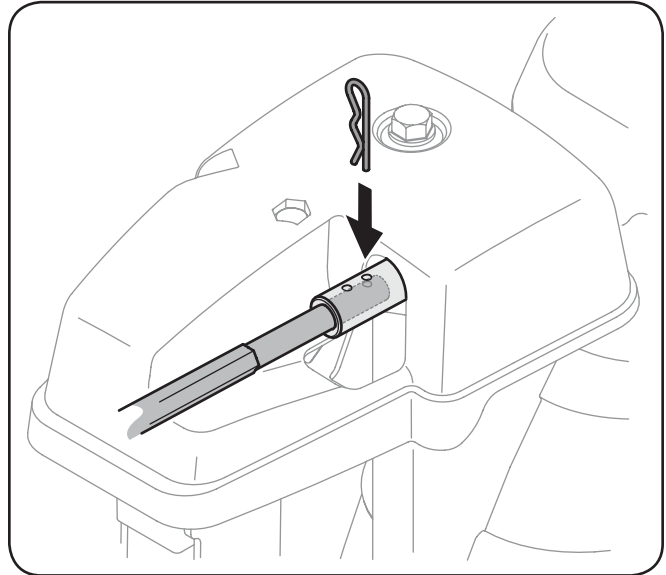

Figure 3-9
7. Push the chute control rod toward the control panel until the hole in the rod lines up with the hole in the chute control input closest to the chute control head and insert the hairpin clip removed earlier. See Fig. 3-9.